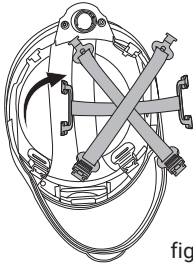

fig.11
- Remove soft band from headgear and replace with a new webbing (See fig.11).